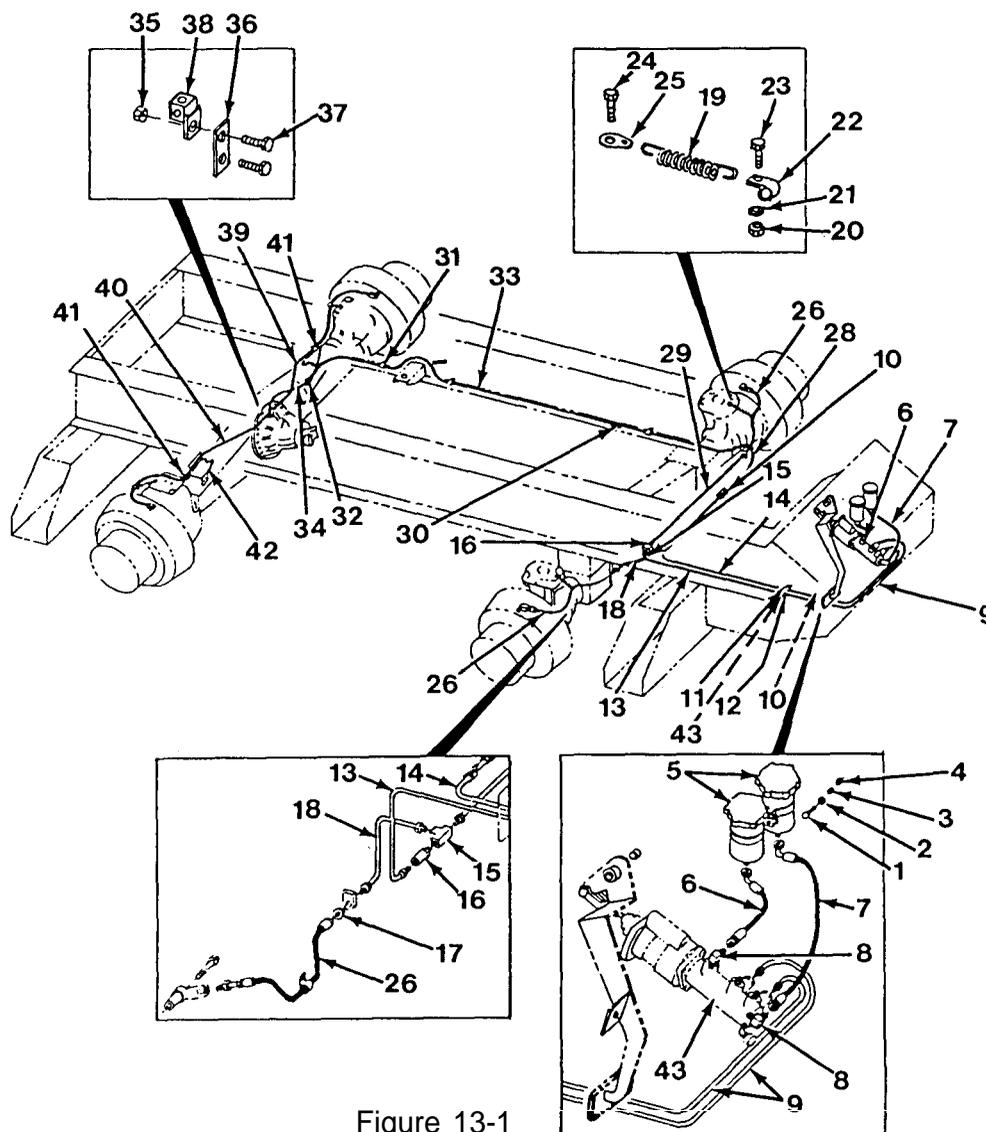

Figure 13-1
1. Install two nuts (41) and tubes (40) and (39) to brackets (42, Figure 13-1) on each side of rear axle.
2. Install tee fitting (38), capscrew (37), plate (36) and nut (35) on rear axle near differential.